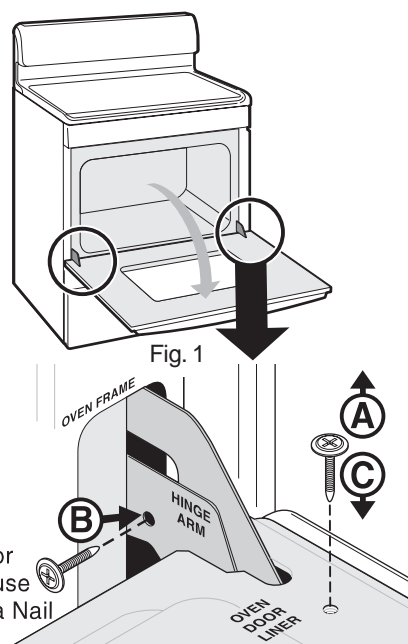

Fig. 2
4. Position rack by tilting front of rack up and pulling rack out from locating holes in rear of broiler drawer. Reposition back of rack in the desired locating holes and allow front of rack to slide down into the corresponding slots in front of broiler drawer, Figure 2.
2. Remove 2 screws located on the inside of the oven door liner (See **A** Fig. 2)
3. Insert the 2 screws into the door hinge holes located on the side of the hinge arm, one into each hinge (See **B** Fig. 2).
5. Reinstall the 2 screws into the door liner (See **C** Fig. 2).